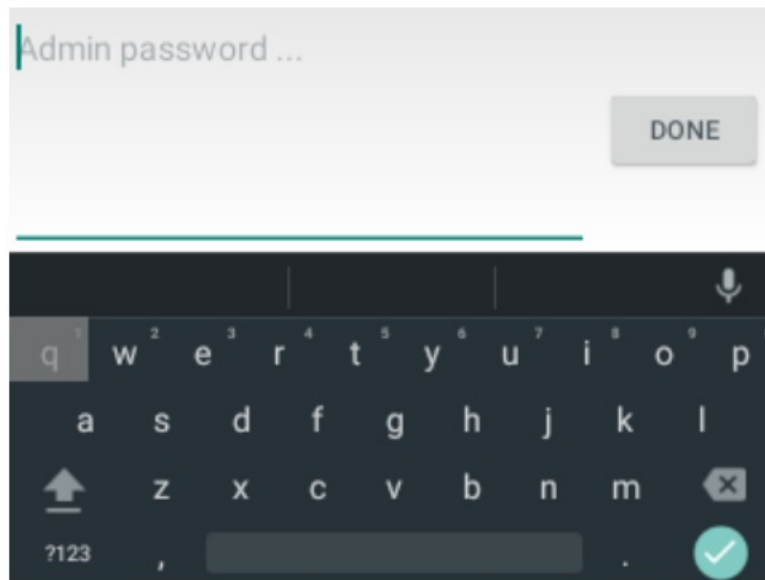

Fig. 7
1. In the main menu, swipe down once to open the admin login page (Fig. 7).